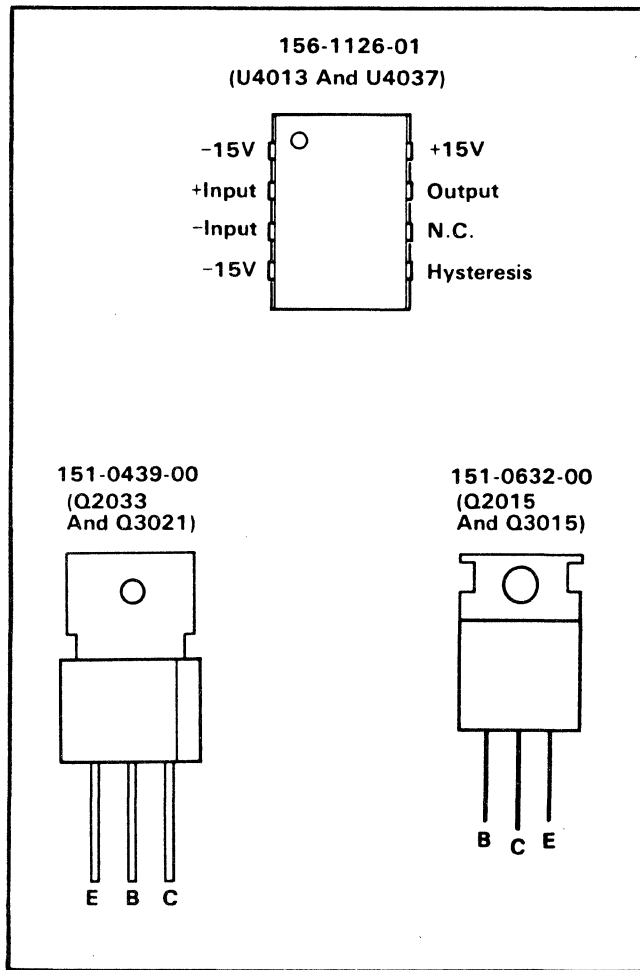

Fig. 13-2. Transistor Pinouts.
7. Check the base-collector and base-emitter forward voltage drops of both transistors in circuit using the diode meter (see Fig. 13-2 for connections). In a good circuit, the base-collector voltage will be about 500 mV; and the base-emitter voltage will be about 130 mV (due to the 130 ohm resistor in a parallel DC path). After failure, however, both voltages will probably be about zero, indicating shorts.
9. If either Q2015 or Q3015 show a base-to-emitter short while in the circuit, remove it and check the associated CR2024/3012 with the diode meter. Be sure to check the diode in the forward, rather than the Zener direction. Either the Q2015/3015 base-emitter junction or the CR2024/3012 will be shorted. Also check the associated Q2033/3021 for base-emitter or base-collector shorts (see Fig. 13-2). This transistor has failed in about 20% of catastrophic inverter failures.